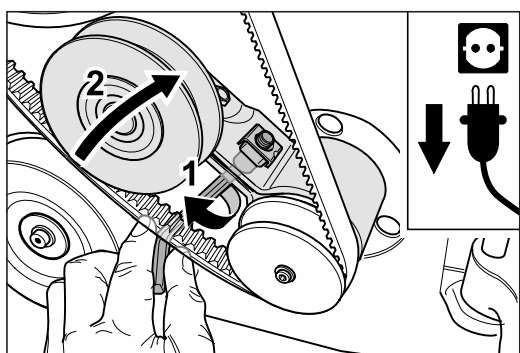

Fig. 66 Open the clamping screw (1) and release the tension of the V-belt (2).
- 6 Open the clamping screw of the belt tensioner for the fan V-belt (fig. 66, 1).
- 7 Turn the belt tensioner clockwise to release the tension of the fan V-belt (fig. 66, 2).